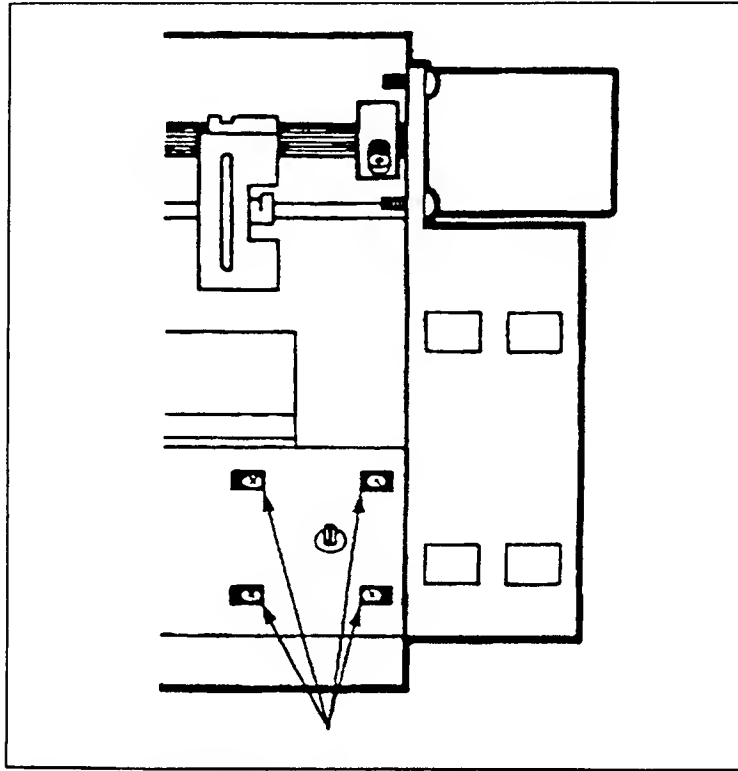

Figure 6-8. Ribbon Motor Screws
- f. Remove the four pozidrive screws which secure the ribbon motor assembly to the printer weldment housing (see Figure 6-8).